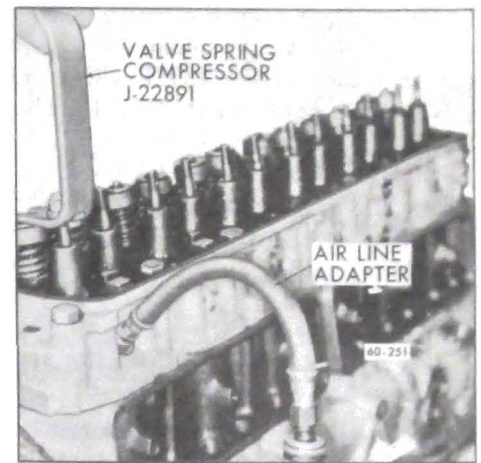

Figure 60-103 - Removing Valve Cap Retainers
4. Using a suitable compressor, such as J-22891, compress valve spring and remove valve spring cap keys. Release tool and remove shield spring and cap. See Figure 60-103.